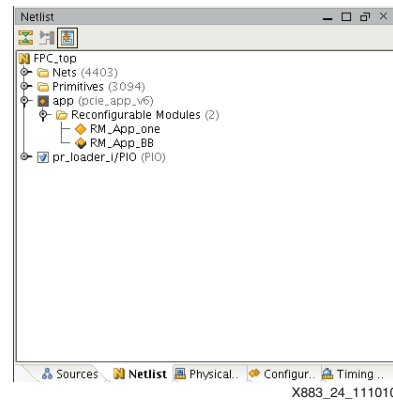

Figure 24: Adding the Black Box
4. Click **Finish** (see Figure 24).